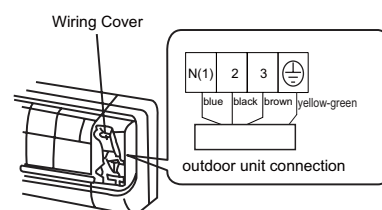

Fig.2
2. Remove the wiring cover. Connect and fix the power connection cord to the terminal board. As shown in Fig. 2